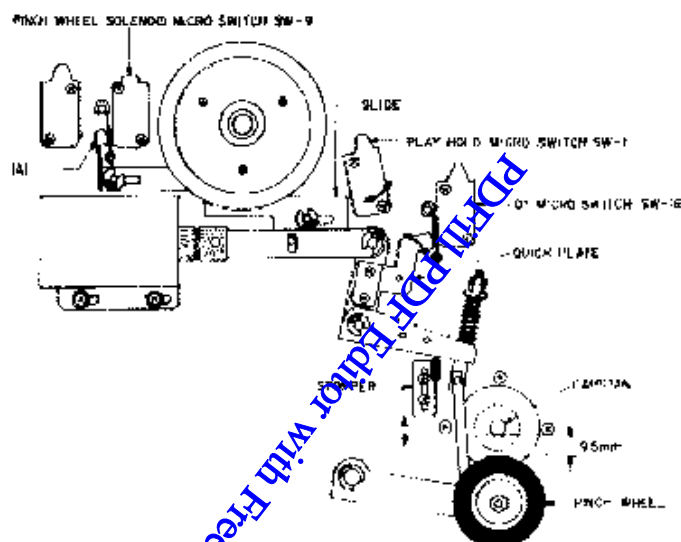

Fig. 1
1. POSITION ADJUSTMENT OF PINCH WHEEL SOLENOID SW-9 (Refer to Fig. 1)